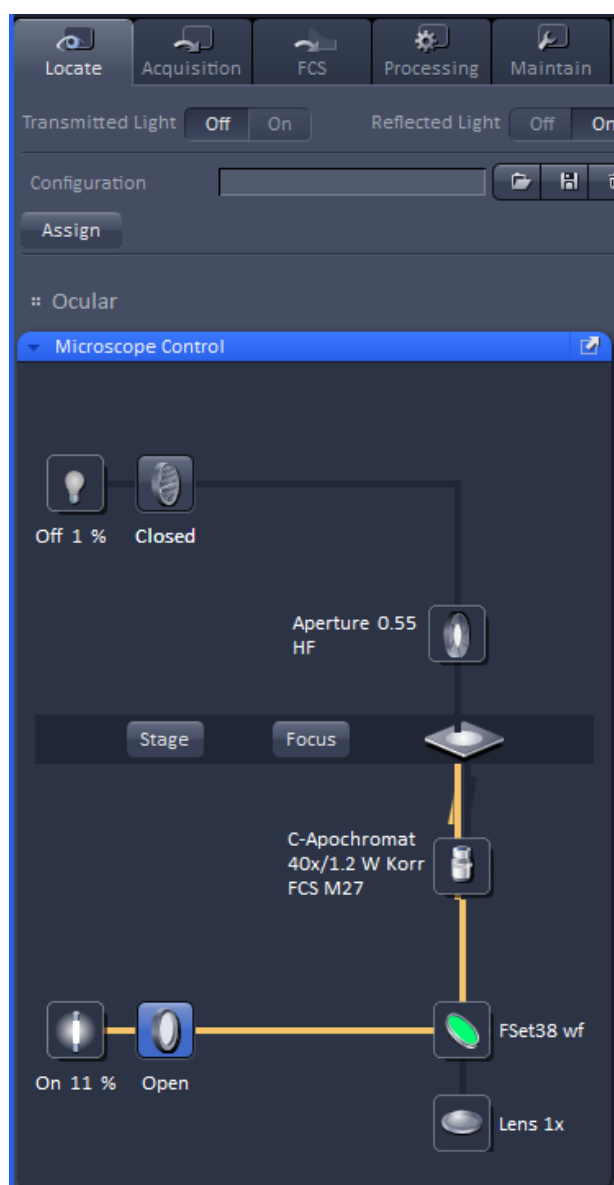

Fig. 352 Microscope Control tool
- Open the **Microscope Control** tool (Fig. 352).